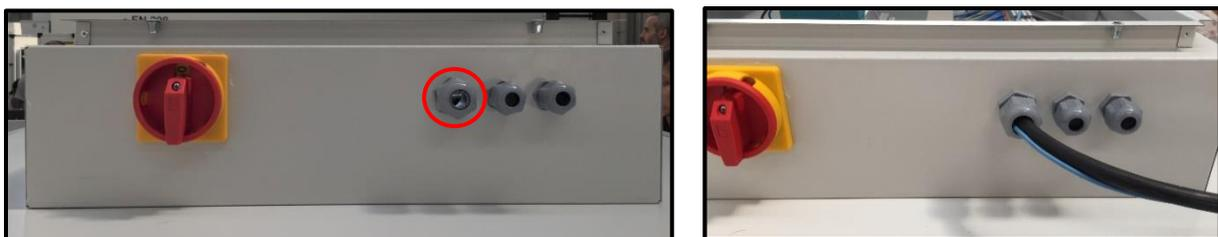

Fig. 14
3. Loosen the marked grommet and enter the cables here. (Fig. 14)